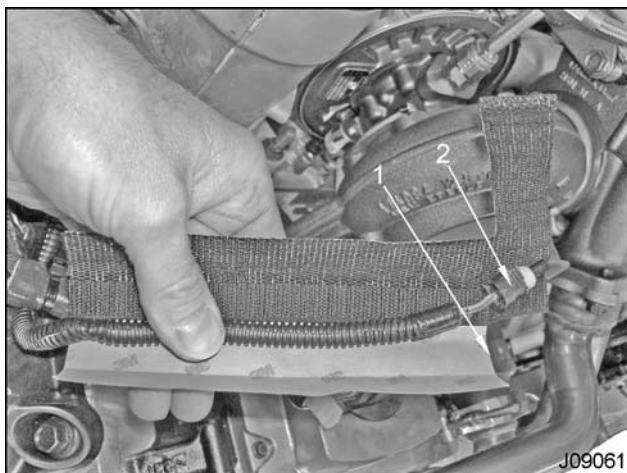

Figure 3 Wiring harness on heat reflective shield
7. Hold the new heat reflective shield as shown in (Figure 3).